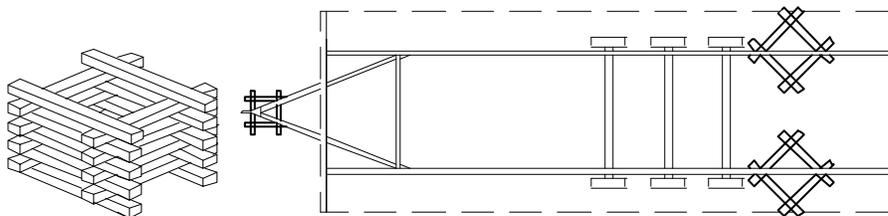

Figure 15. Stack 4" x 6" by 5' long timbers as shown to form safety timbers. Place safety timbers under home behind axle area and under hitch.
Manufactured homes weigh several tons. No one should be under the home (whether it is moving or stationary) unless proper cribbing is in place (**Figure 15**). Failure to utilize proper cribbing may result in serious injury or death.
- Make sure adequate safety cribbing (**Figure 15**) is in place whenever the home is placed on jacks.
2. **Install cribbing.** Install safety cribbing (**Figure 15**).